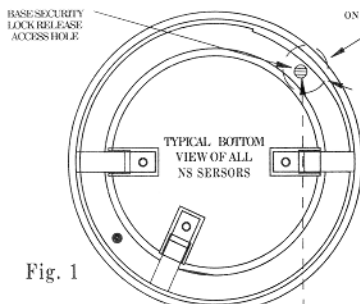
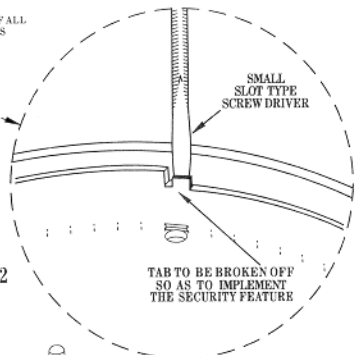
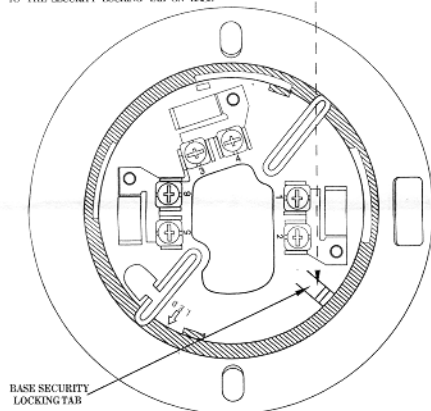

Fig. 1
Fig. 2
Fig. 3
- 1) Take any sensor and turn it over to view the bottom as shown in Fig. 1. Using a small blade type screw driver break the tab as shown in Fig. 2. This will allow the base security locking tab, as shown in Fig. 3 to stay elevated. This will prevent the sensor from being removed from its base.